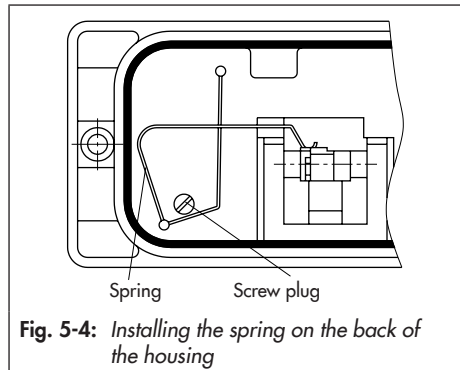

Fig. 5-4: Installing the spring on the back of the housing
7. Remove screw plug on the back of the positioner (Fig. 5-4) and seal the side signal pressure output with the stopper included in the accessories.
8. Mount the positioner so that the hole in the intermediate plate (15) covers the seal in the hole of the actuator yoke.
ly located in the bracket (11), fix the spring included in the accessories at the back of the positioner housing as illustrated in Fig. 5-4.
1. Place the lever with feeler roll (3) on the side of the lever (5) opposite to where the press nuts are located and secure it using the supplied screws (6) and washers.
2. Attach the spring contained in the accessories kit (order no. 1400-6660) to the back of the positioner housing (see Fig. 5-4).